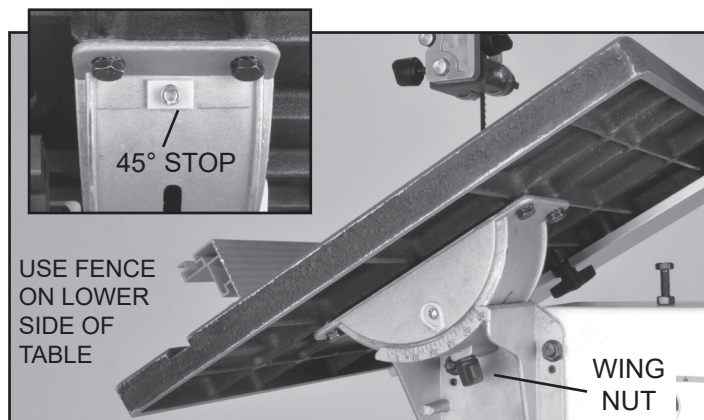

FIGURE 15
1. To tilt the table, loosen the Wing Nut (#113) on the table trunnion. Set the table to the required angle and then tighten the wing nut to secure the table. FIG 15.
The trunnion features a Stop (#87) that adjusts to set the table angle at a precise 45° angle. FIG. 15 Inset.